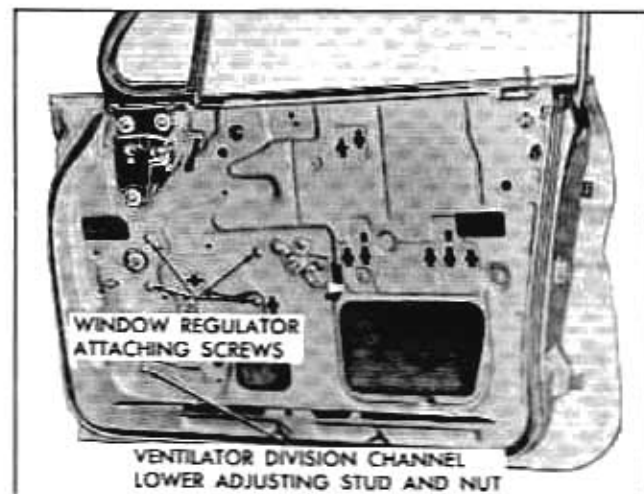

Fig. 2-26 Front Door Inner Panel—Hard Tops
6. Remove window regulator attaching screws (Fig. 2-26). Disengage regulator balance arm from inner panel cam and carefully remove regulator assembly from door.